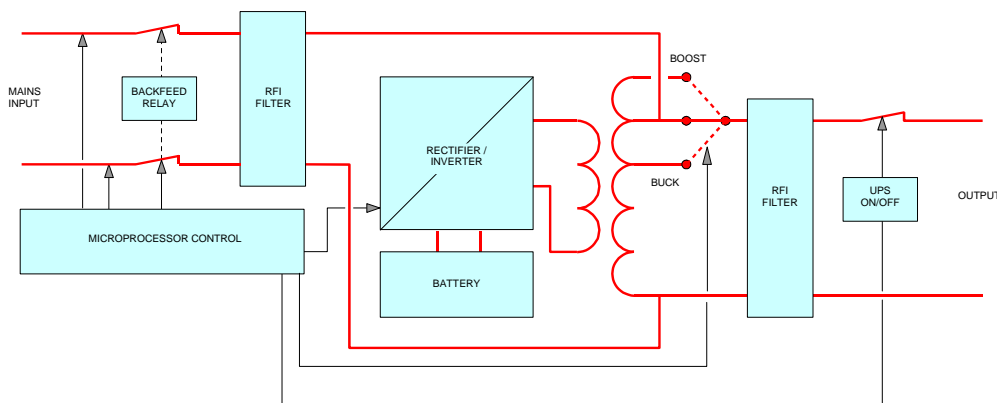

Figure 1 Block diagram of the ML 350-1000 UPS
The ML Series UPS stores electric energy in batteries housed in the unit. This allows the UPS to supply output power even when the incoming mains power is cut off completely. Energy is stored as Direct Current (DC), while input and output energy must be Alternating Current (AC). Therefore the UPS contains a rectifier (to convert from AC to DC) and an inverter (to change energy from DC to AC). (See fig.1)